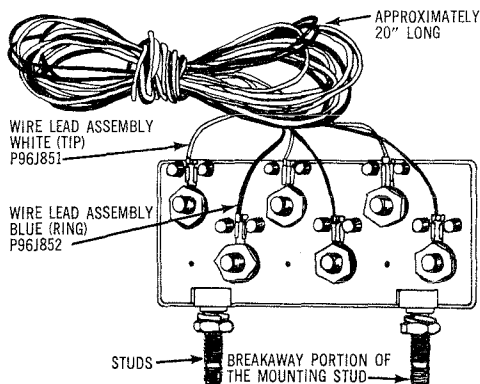

Fig. 5—QBN-1C Terminal
4.02 After the six binding post connections have been used an additional QBN-1C (3 Pair NON-PROTECTED TYPE) Terminal Block (see Fig. 5) may be placed in the second mounting position.